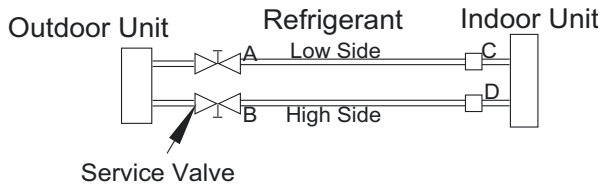

Fig. 18 — Service Valve
1. Completely tighten the flare nuts (A, B, C, D, E). Fully open all circuits service valves. Connect the manifold gage charge hose to the charge port of the low side Master service valve to evacuate all circuits at the same time (see Fig. 18).